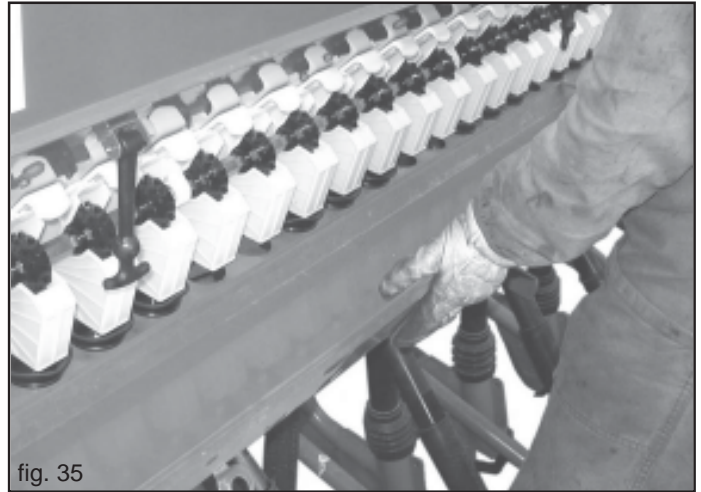

fig. 35
- 2) Release the seed-test trays (Fig. 35) and position them beneath the seed discharge mouths.